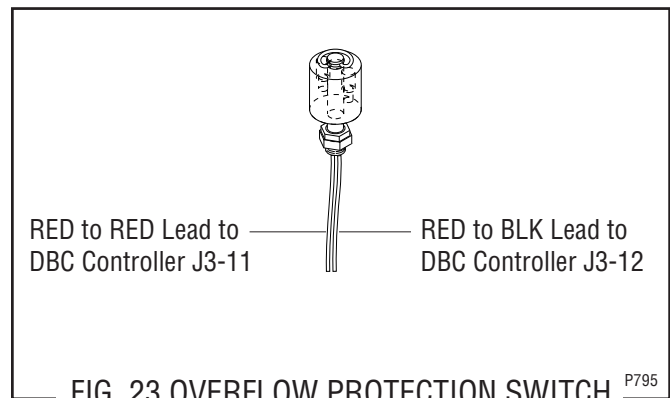

FIG. 23 OVERFLOW PROTECTION SWITCH LEADS
6. Refer to Fig. 23 when reconnecting wires.